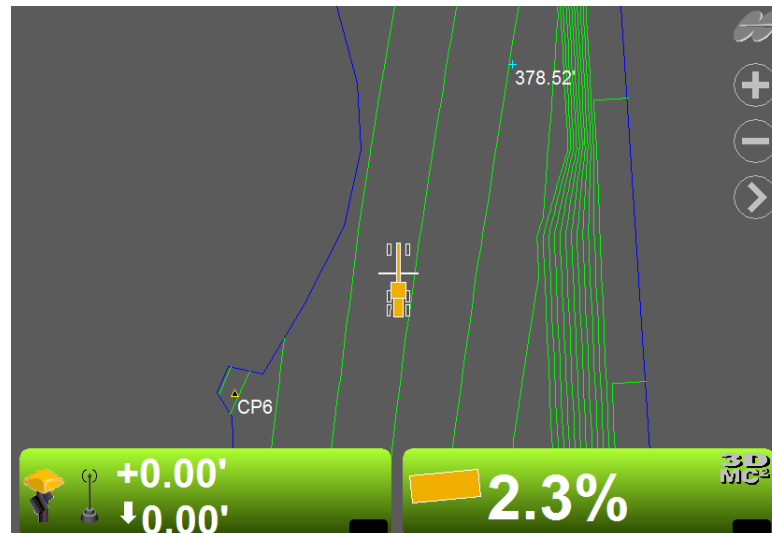

Figure 108: Point Options Displayed in 3D-MC
3. Tap **OK**. The main screen displays points symbols and/or point numbers during a topographic survey (Figure 108).